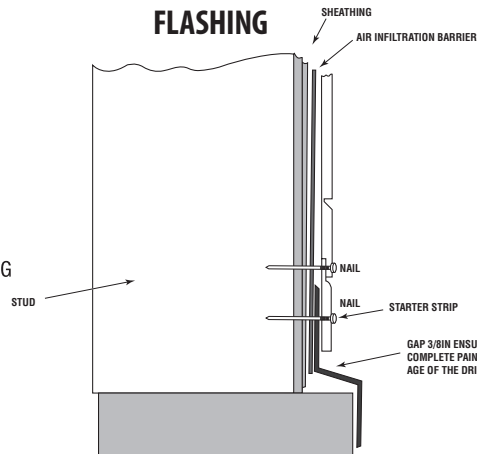

Figure 7
- In areas where the bottom drip edge of the siding is adjacent to flashing, provide a minimum 3/8 in. gap between bottom drip edge of the siding and the flashing (see Fig. 7).
- Install flashing in a manner that creates proper out-sloping (see Fig. 7).